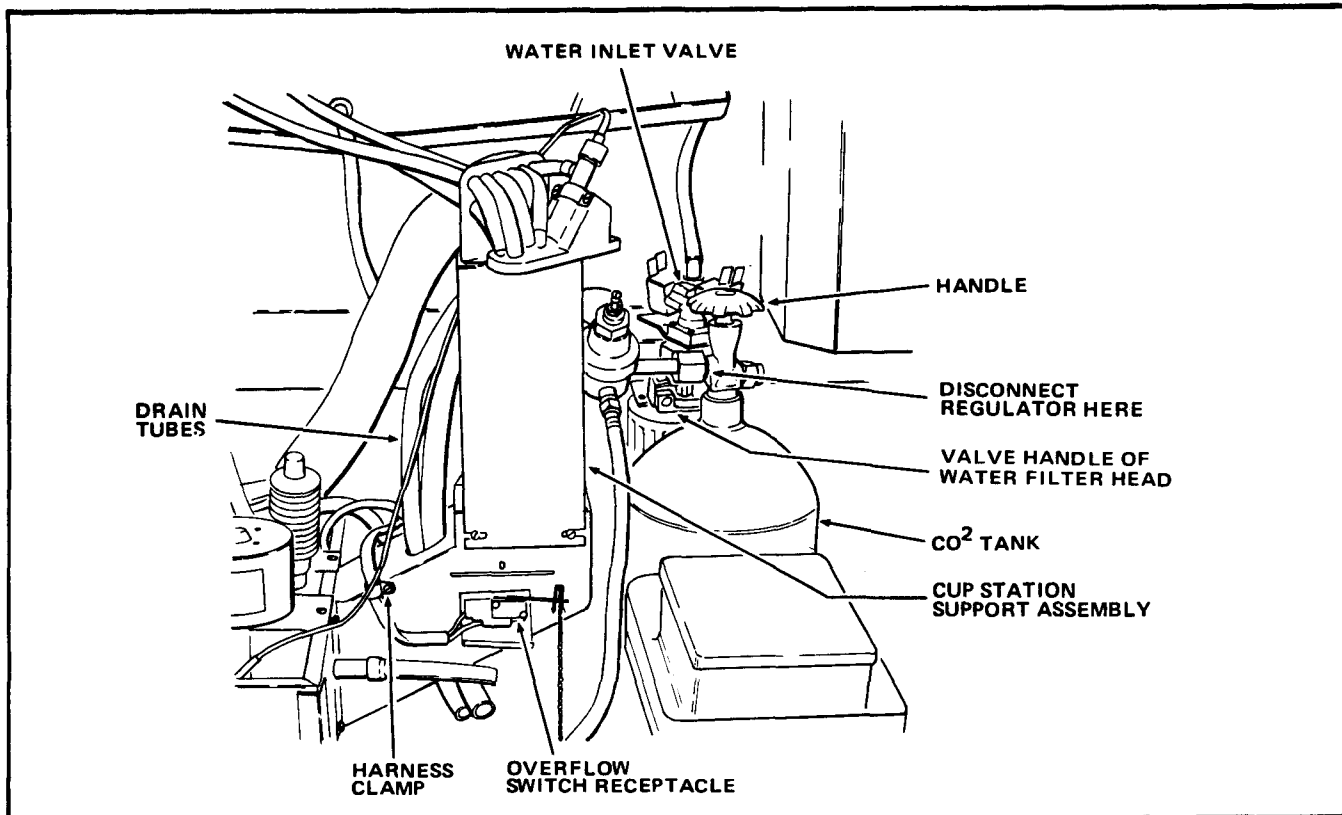

FIGURE 3
10. Turn the handle on the CO₂ Tank clockwise to the fully closed position. See Figure 3.
11. Disconnect the Regulator from the CO₂ Tank. See Figure 3.
12. Pull the three Drain Tubes from the Cup Station Support Assembly. See Figure 3.
13. Remove the Screw and Overflow Switch Cover attached to the Cup Station Support Assembly. See Figure 3.
14. Remove the Harness Clamp and disconnect the Switch Receptacle from the Overflow Switch. See Figure 3.
- a. Rotate the Valve Handle of the Water Filter Head UP 90-degrees. This will shut the water supply off. See Figure 3.
- d. Disconnect the tube at the discharge fitting of the Water Inlet Valve, that connects to the Water Feeder Cup. See Figure 3.